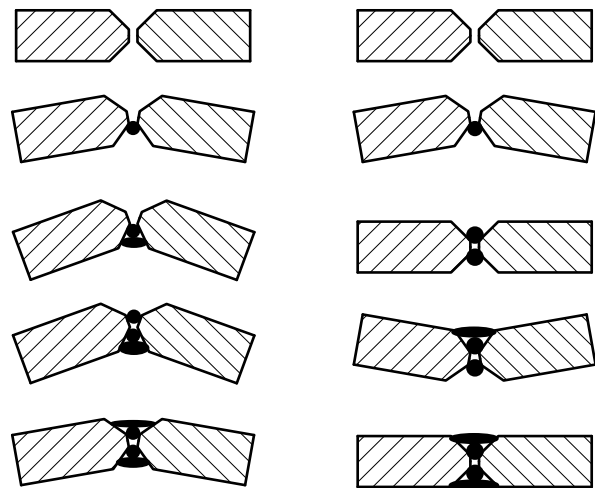

Fig. 10.9
- Products that have to be welded on both sides should be welded with a large weld volume that alternates between top and bottom. This counteracts any buckling of the product caused by the application of heat. For thick sheets, use a double V-groove weld instead of a V-groove weld for this. (Fig. 10.9)